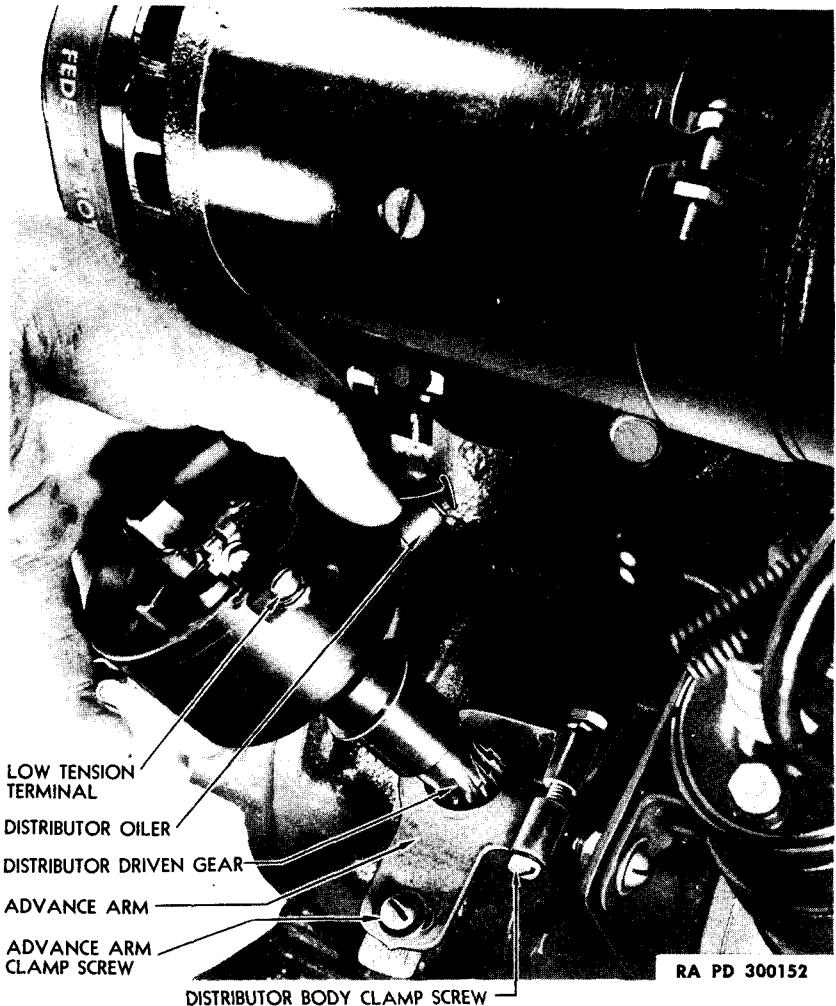

Figure 61—Installing Distributor Assembly
(3) **PRE-SET ADVANCE ARM.** Loosen advance arm clamp screw (fig. 61) and set advance arm pointer 1½ graduations to the left of center "0" mark. Tighten advance arm clamp screw to retain advance arm in position.
water pump housing. Have distributor body turned in same position as when removed (mark at right angles to engine center line, or low-tension terminal downward and to the right) (fig. 61), and place center of rotor strip about $\frac{1}{4}$ inch counterclockwise from No. 1 mark
just break contact, with rotor pointing to No. 1 mark on body. Exact time of point opening can be determined by using a very thin feeler of paper, or by watching the "break" indicated by a 6-volt test lamp temporarily connected across distributor points. Lamp lights when points separate or "break." Lock distributor body in No. 1 "break" position by tightening distributor body clamp screw (fig. 61). Install distributor cap, No. 1 spark plug, and spark plug high-tension leads.
(7) BASIC ADVANCE ARM SETTING. After setting distributor body by either method (steps (5) or (6) above), loosen advance arm clamp screw (fig. 61) and set advance arm pointer back to center "0" mark. This has the effect of advancing the ignition timing six degrees ahead of piston top dead center—the correct basic ignition timing setting.
(8) ADJUSTMENT FOR FUEL. With varying grades of fuel, it may be necessary to alter distributor timing. Loosen advance arm clamp screw and rotate distributor assembly a point at a time as indicated by advance pointer. To advance timing, move pointer to right. To retard timing, move pointer to left. When desired setting is obtained, as indicated by performance and degree of detonation, tighten clamp screw. Timing should be advanced enough to cause slight detonation on sudden acceleration. Constant detonation is undesirable.
(2) **MARK ROTOR POSITION.** Inside distributor cap note position of No. 1 terminal (par. 84 a (2)) and mark position on distributor body.
(4) **REMOVE DISTRIBUTOR.** Loosen distributor body clamp screw (fig. 61) in distributor advance arm on top of water pump housing, and withdraw distributor body assembly. Do not crank or rotate engine while distributor is removed.